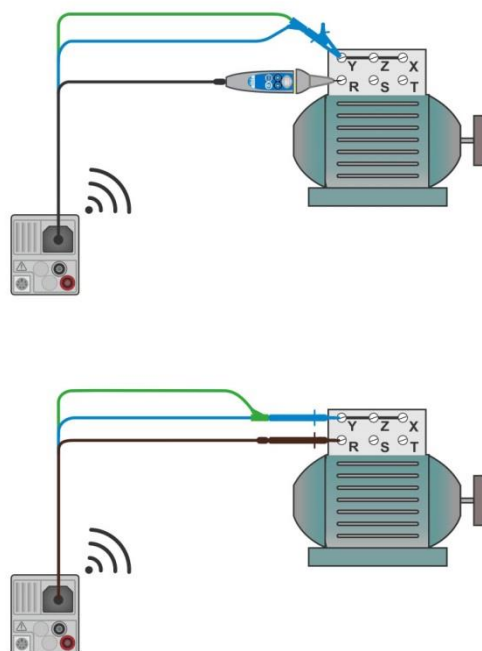

Figure 7.20: Tip commander and 3-wire test lead applications
- › Connect test leads to device under test, see **Figure 7.20**.